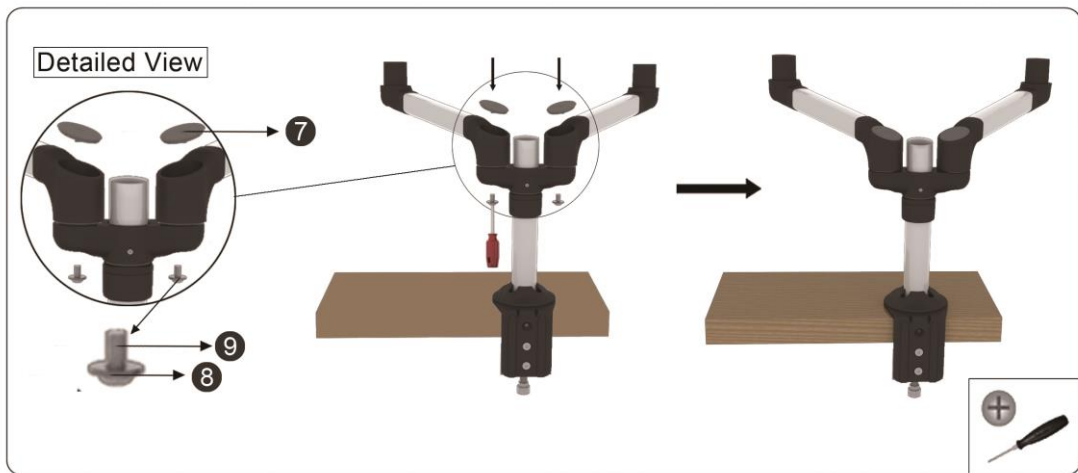

Figure 3-3
- Place the arm covers (7) on the pivot points and secure with the M6x12mm Phillips screws (9) and washers (8) (See Figure 3-3). Do not over tighten the screw. The arm cover is used to help secure the extension arm.